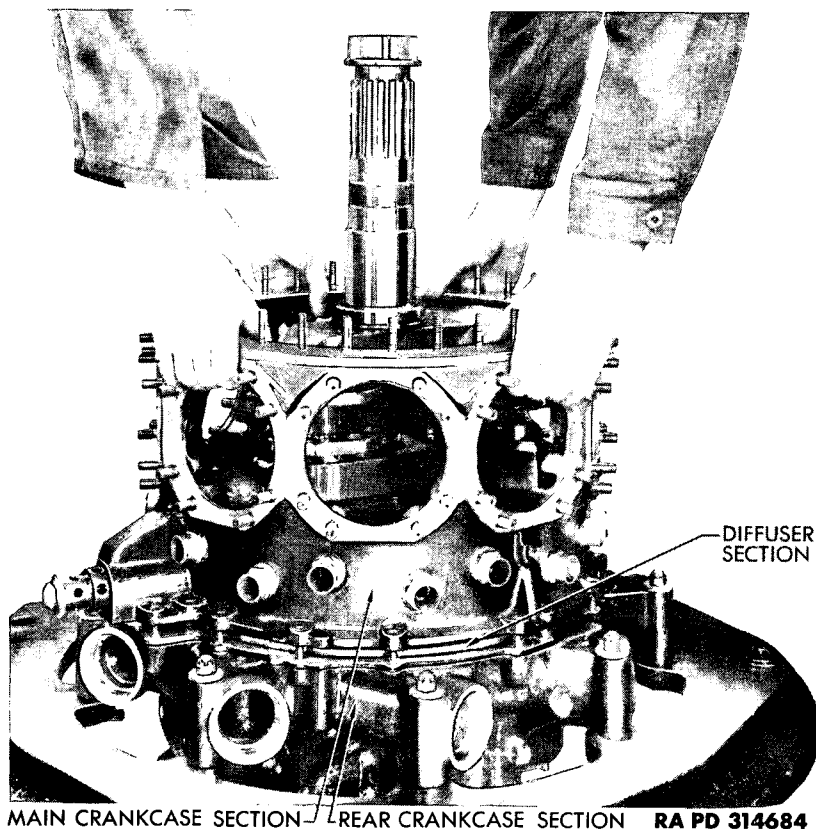

Figure 69 – Removing Main Crankcase Section
(1) REMOVE BY LIFTING. Cut and remove safety wires from 16 remaining nuts that hold main crankcase section to rear section. Remove nuts and flat washers. Lift main section, including crankshaft, from rear section studs (fig. 69).